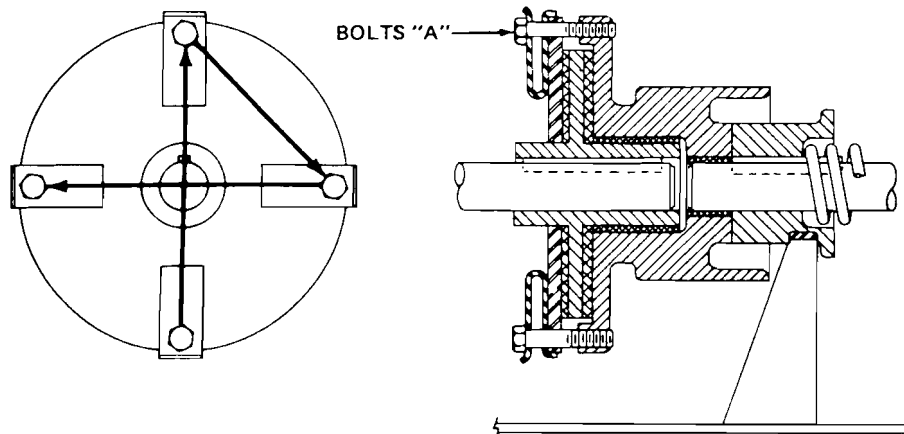

Figure 15. Adjusting Clutch
(1) The purpose of the clutch is to protect the equipment from shock loads that might be introduced into the system. Under normal operation the clutch will not slip. Therefore, the clutch should be adjusted to a sufficient torque that will allow the operator to start and stop the gate without any slipping. However, the clutch should not be so tight that it cannot slip under excessive loads.
(2) To adjust the clutch, tighten the bolts marked "A" as shown in Figure 15. Never tighten bolts consecutively, but always directly across from each other so as to provide even tension. An equal turn of each bolt is an important adjustment procedure.